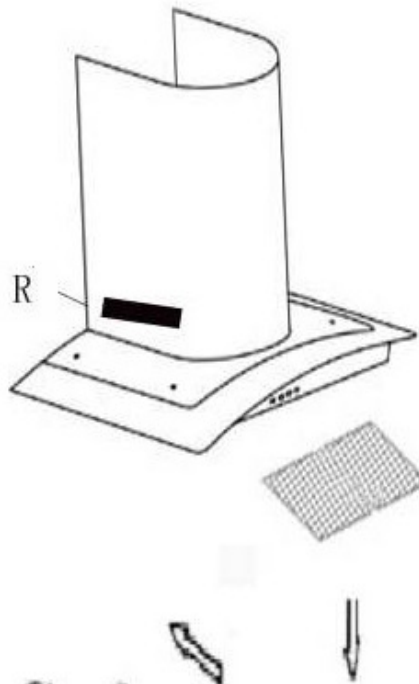

Fig. 2
- ✓ Remove the metal anti-grease filters (see Figure 2 below) and find the old bulb located in the light fixture up inside the exposed canopy. Change the halogen bulb using only olive-shaped spares with an G4 coupling, max.20W.
- 1) Press the handle of the metal grease filter towards the rear part of the unit until it is released from the front housing, and remove it by pressing downwards (Fig. 2 - above).